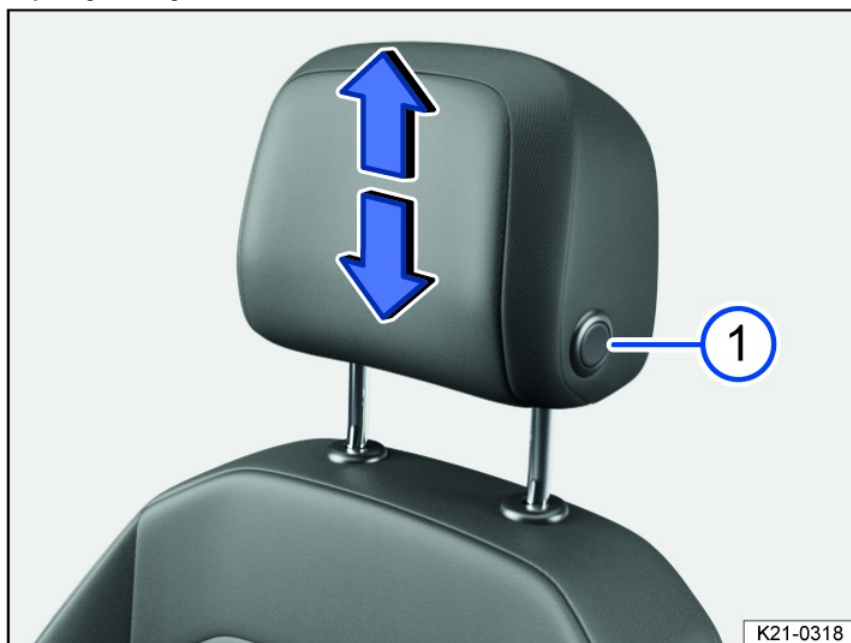

Fig. 79 General example: adjusting the front head restraint.
1. If necessary, slide the head restraint upward or downward in the direction of the arrow and when pressing the *fig. 79* button.